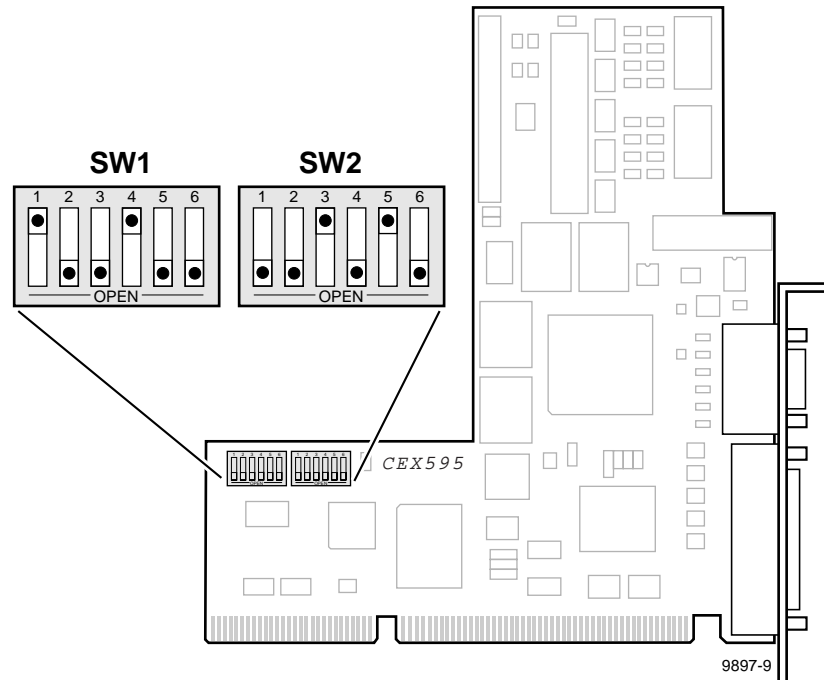
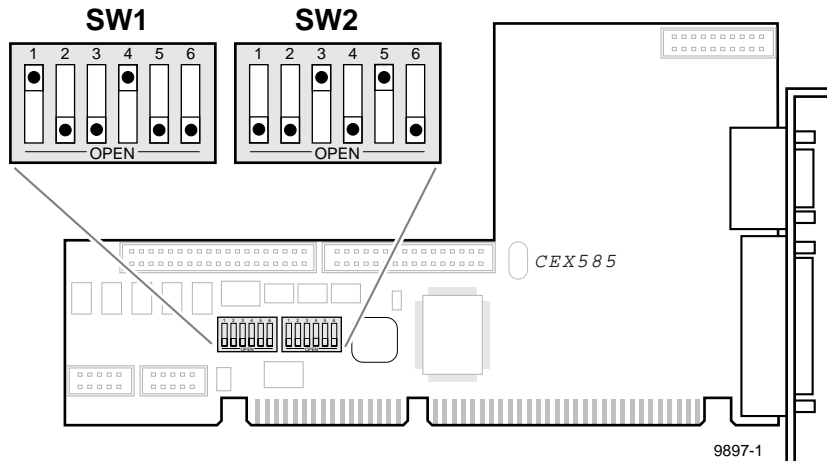

Figure 16. CEX595 VGA-I/O board switch settings when used with the Pentium System CPU board
Figure 17. CEX585 VGA-I/O board switch settings when used with the Pentium System CPU board.
8. Set the switches on your VGA-I/O board as shown in Figure 16 for the CEX595 or Figure 17 for the CEX585.